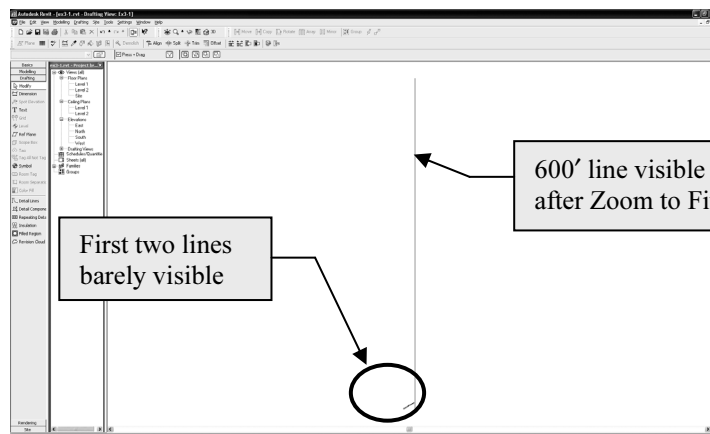

Figure 3-1.14 Detail view with three lines
39. Use **Zoom All to Fit** to see the entire drawing (Figure 3-1.14).